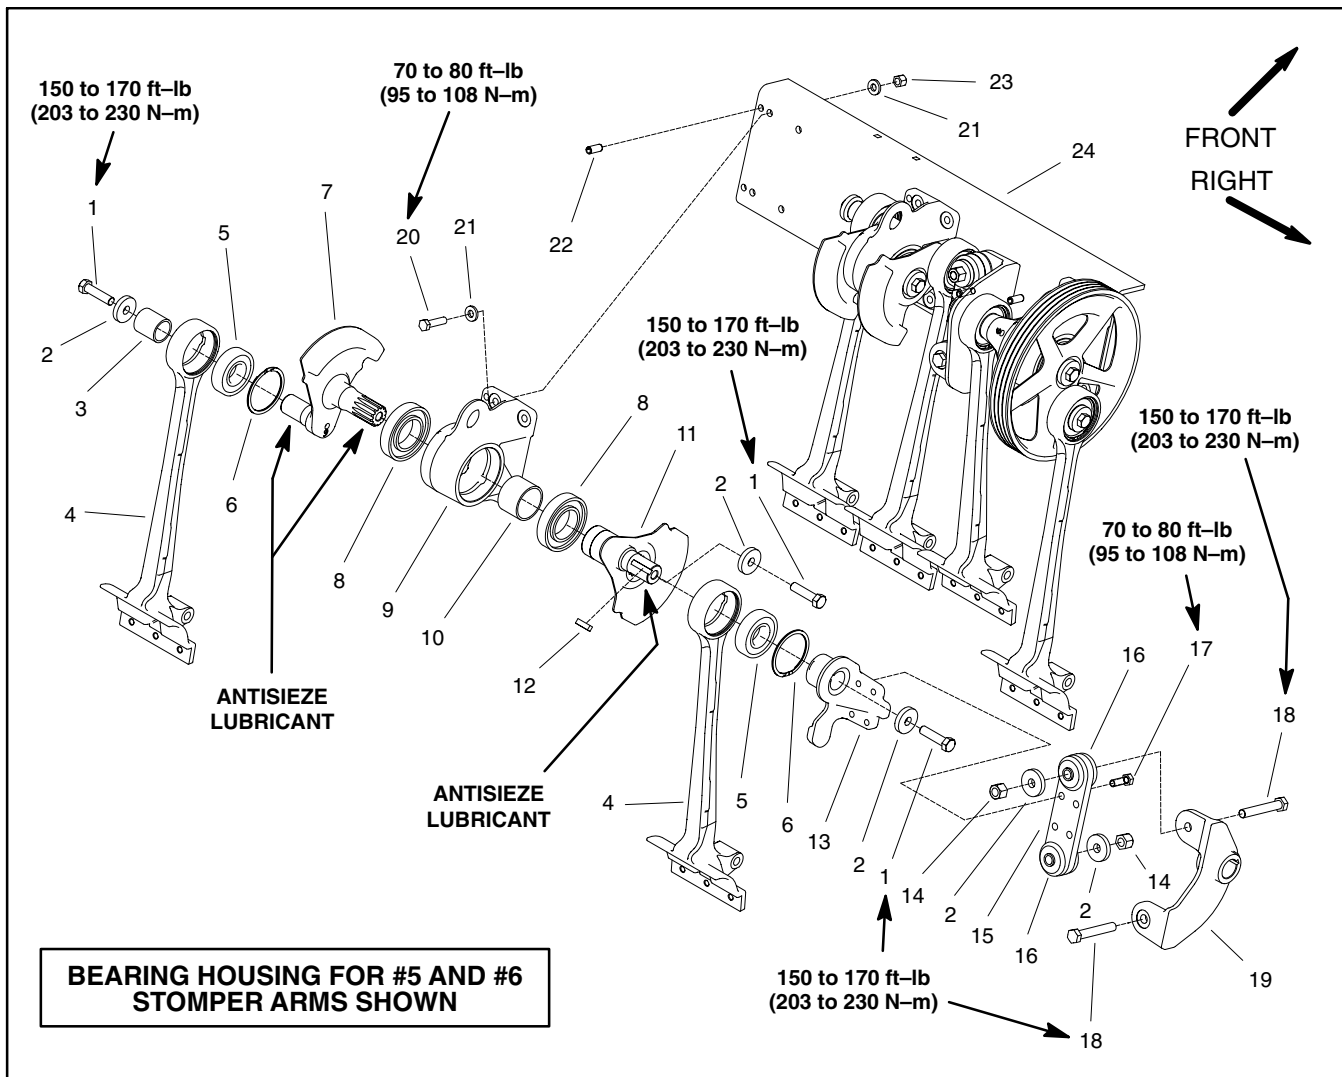
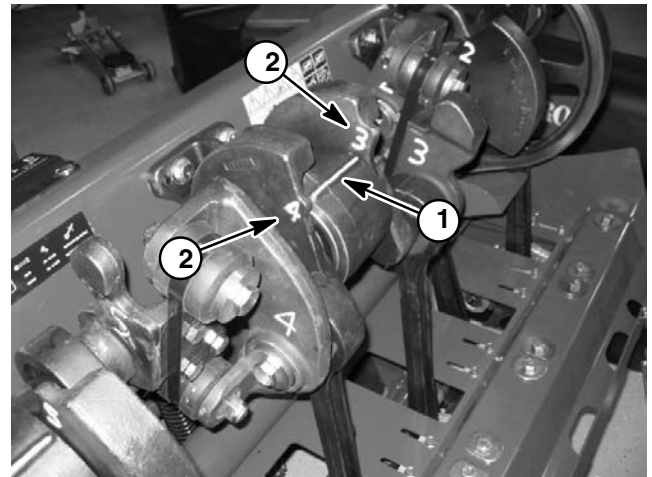

Figure 8
Figure 9
### Removal (Fig. 8)
A. Remove cap screw (item 1) and flat washer (item 2) that fasten crankarms together. Take note of alignment of identification number on crankarm with timing mark on bearing housing (Fig. 9).
**Installation (Fig. 8)**
3. Install crankarms into bearing housing. Make sure that correct identification number on crankarm is aligned with timing mark on bearing housing (Fig. 9).
4. Install cap screw (item 1) and flat washer (item 2) to retain crankarms. Do not fully tighten cap screw.
6. Position bearing housing assembly to coring head frame and secure with four (4) cap screws, eight (8) hardened washers and four (4) lock nuts. Torque fasteners from 70 to 80 ft-lb (95 to 108 N-m).
8. Once all components have been installed, fully tighten fasteners in the following order. Tighten fasteners to the torque specifications identified in Figures 8 and 10: